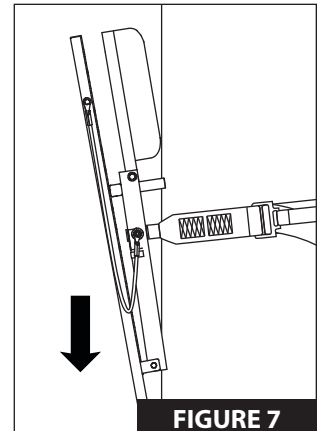

FIGURE 7
d. While platform is still folded up, push treestand in a downward direction as shown by arrow to further tighten strap. **SEE FIGURE 7.**